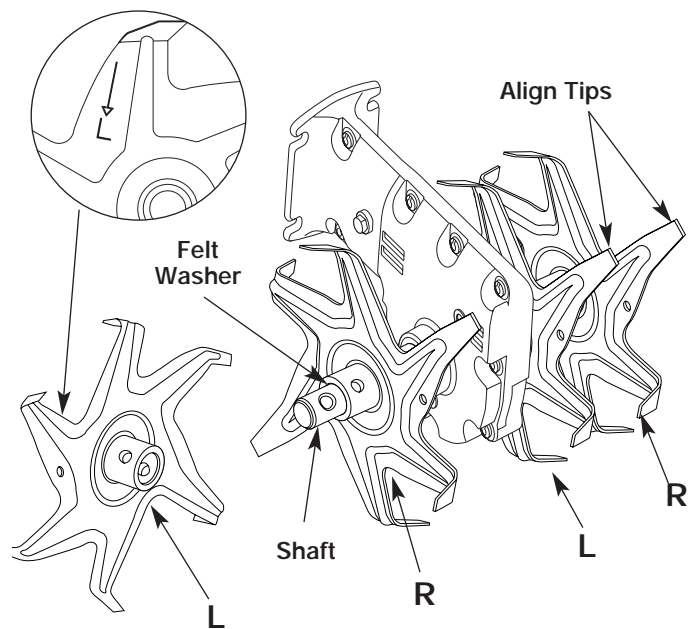

Figure 21
- Ensure the tips on tines are aligned in the same direction with each other before reinstalling the clevis pins and pin clips. See Figure 21.